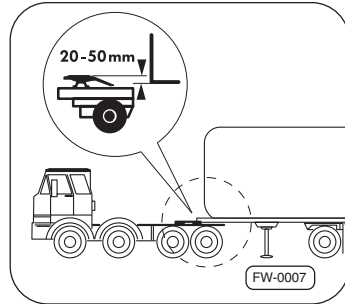

Fig. 11 · Lock the semi-trailer
6. Set up the fifth wheel plate Fig. 11 so that there is a distance of **min. 20 mm to max. 50 mm** from the bolster plate.